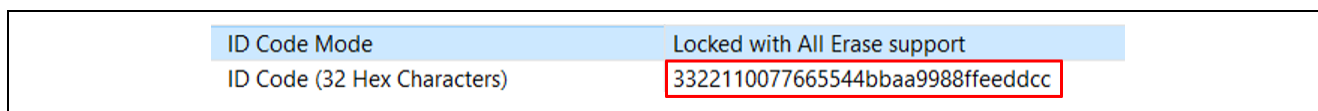

Figure 56. Setup ID Code in Configurator
Step 11: Reset the OSIS ID to all FFs in the configurator for the blinky project (see Figure 56) and compile the project.